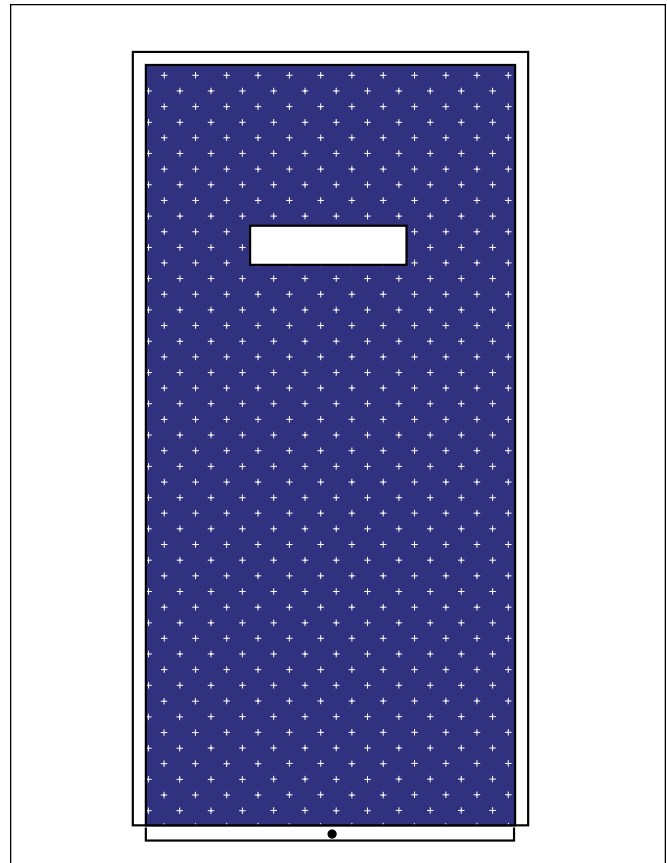

Figure 3. Inside Furnace Door
4. Secure the furnace door insulation to the inside of the furnace door (with spray adhesive - 3M Super 77) with the black mat face visible. Make sure the hole in the insulation is toward the top of the door as shown in Figure 3. Tuck insulation inside of flanges on the door.